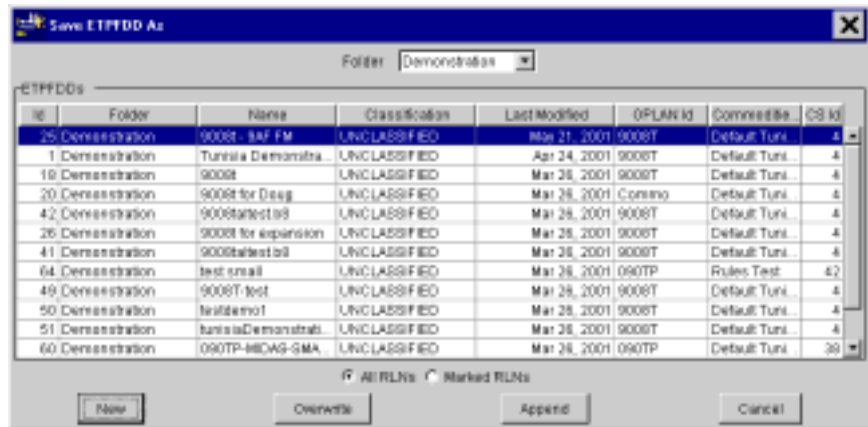

Figure 5.4 Save ETPFDD As Window
2. On the File menu, click Save As. The Save ETPFDD As window opens (Figure 5.4).